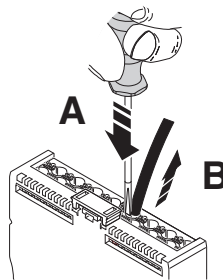

Figure 7-5 Removing the cable
- To remove a cable from the terminal point, press on the spring lever using a suitable tool. This opens the terminal point (Figure 7-5, A).
- Remove the conductor (Figure 7-5, B).